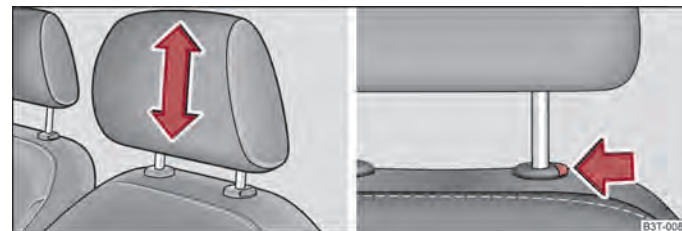

Fig. 59 Head restraint: Adjusting/pulling out
- Grasp the side of the head restraint with both hands and push it in upward direction as desired → fig. 59 - left.
- Move the head restraint downwards if required by pressing and holding the safety button with one hand → fig. 59 - right and by pressing with the other hand the head restraint downwards.
- Press the locking button in the direction of arrow → fig. 59 - right and pull the head restraint out.